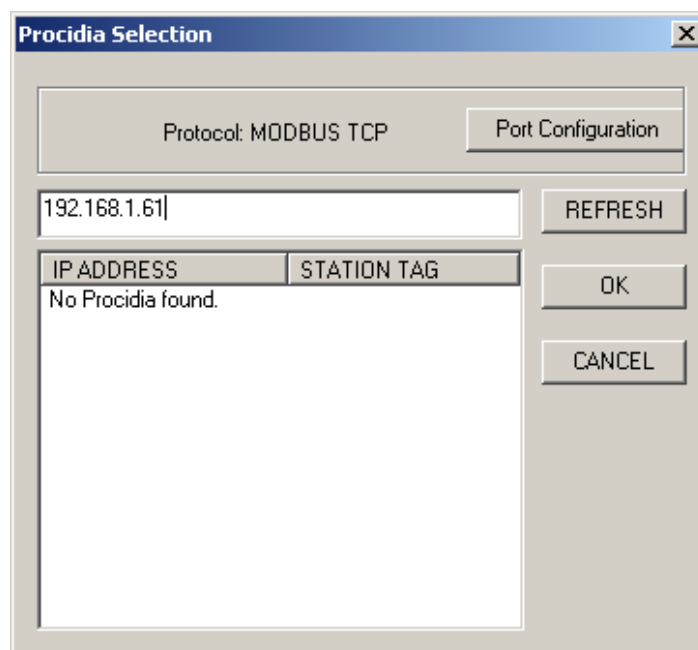

Figure 5-7 Procidia Selection dialog
- For Ethernet, select **[OK]** on the Station Selection dialog. The system will query the Ethernet network using UDP (User Datagram Protocol) to determine the Procidia controllers present and will list them by IP address and station tag on the Procidia Selection dialog. Select the desired controller from the list. If the dialog does not list any controllers but you know one is present you can enter the IP address manually in the top text box. See Figure 5-7.